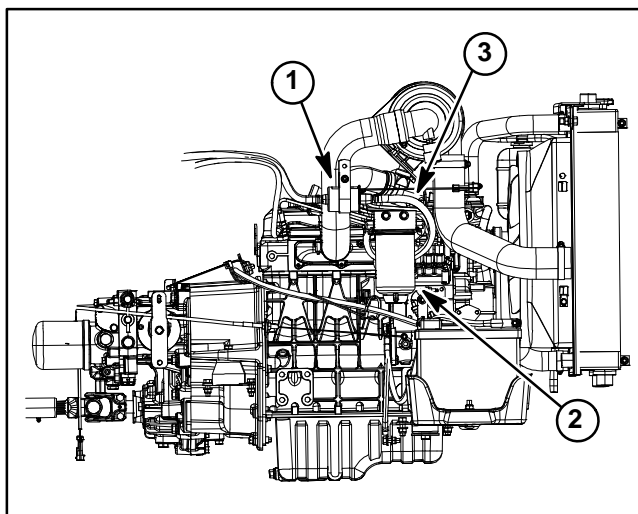

Figure 74
The fuel pump is attached to the frame near the fuel filter (Fig. 74). Electrical current is available for the fuel pump when the ignition switch is in either the RUN or START position.
3. Disconnect fuel hose (fuel pump discharge) from the fuel/water separator inlet fitting (Fig. 74).